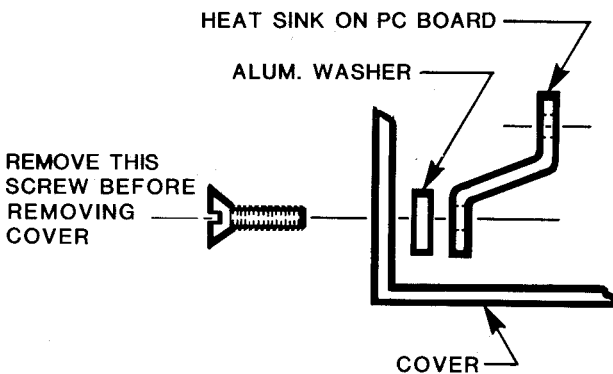

Figure 4-1 - HEAT SINK HOLD DOWN SCREW
1. With the line voltage disconnected, unscrew the heat sink hold down screw on the rear cover of the control (see Figure 4-1 below).
19. Check to see that the aluminum washer, which goes between the control cover and the PC board heat sink (refer to Figure 4-1 on page 5), is aligned over the cover or heat sink screw hole. The aluminum washer has a white substance